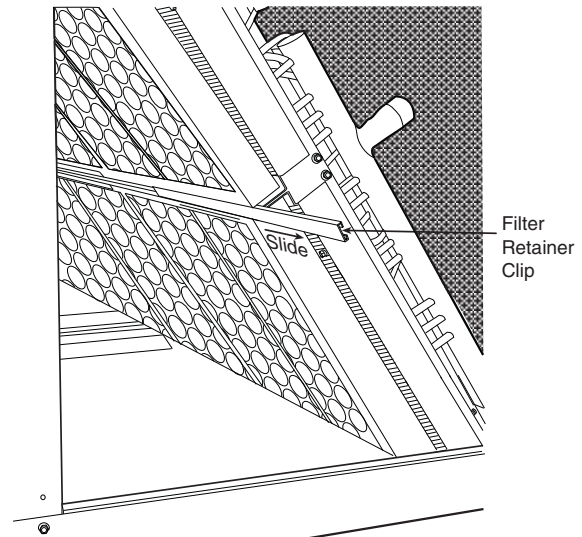

Fig. 26 — Remove Filter Retainer Clip
2. Remove the filter retainer clip (see Fig. 26).